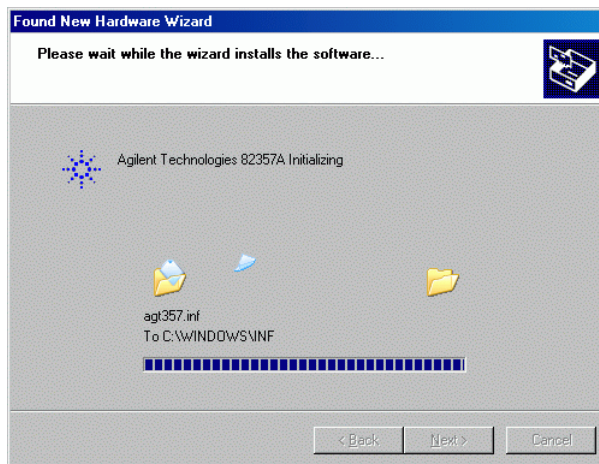

Figure 42 Initializing the 82357A USB-GPIB Interface in Windows XP, first detection
- 5 The system will initialize the USB device. This might take some seconds (see Figure 42).